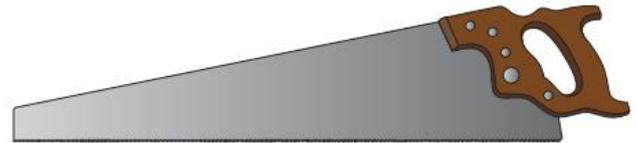

Figure 8.16 Saw without a back
- 1 *Saws without backs* are used for cutting larger pieces of timber to approximate size (Figure 8.16). Examples include rip, hand and panel saws.